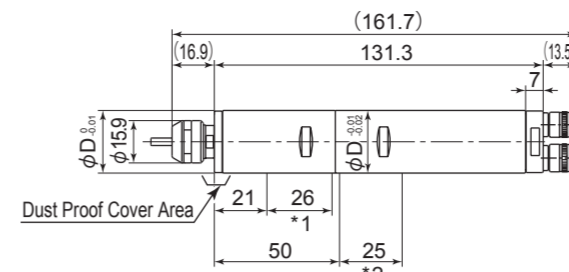
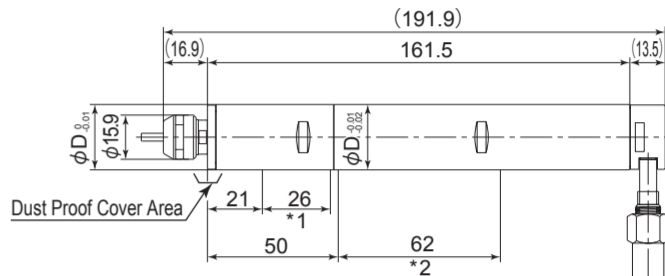

Fig. 1
Fig. 6
- When mounting an Air Motor Spindle, refer to the Clamping Area etched on the Air Motor Spindle. These Air Motor Spindle have 2 Clamping Area refer to "3 - 2 Outside View (Fig. 1 - Fig. 6).